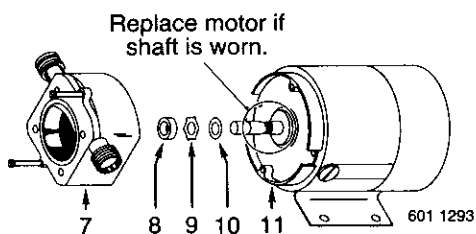

Figure 4 – Replace motor if shaft is worn.
- If seal is leaking, remove 2 body bolts (Key 5) and pump body (Key 7, Figure 4).
Step 3 (Figure 4)